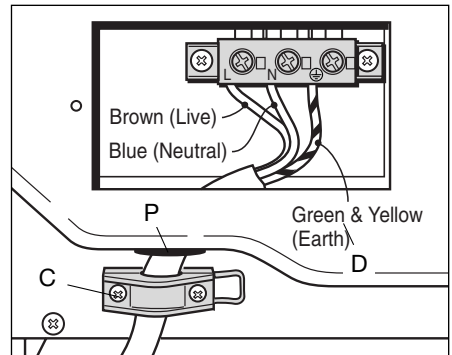

Fig. 10
- Remove the screws "C" from the cable clamp (Fig. 10).